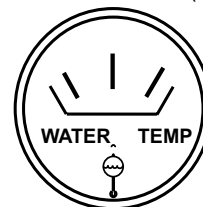

Figure 50. Coolant Temperature Gauge
14. The coolant temperature gauge (Figure 50) will indicate the coolant temperature. Under normal operating conditions the coolant temperature should be between 165 and 215 degrees Fahrenheit (Green Zone).